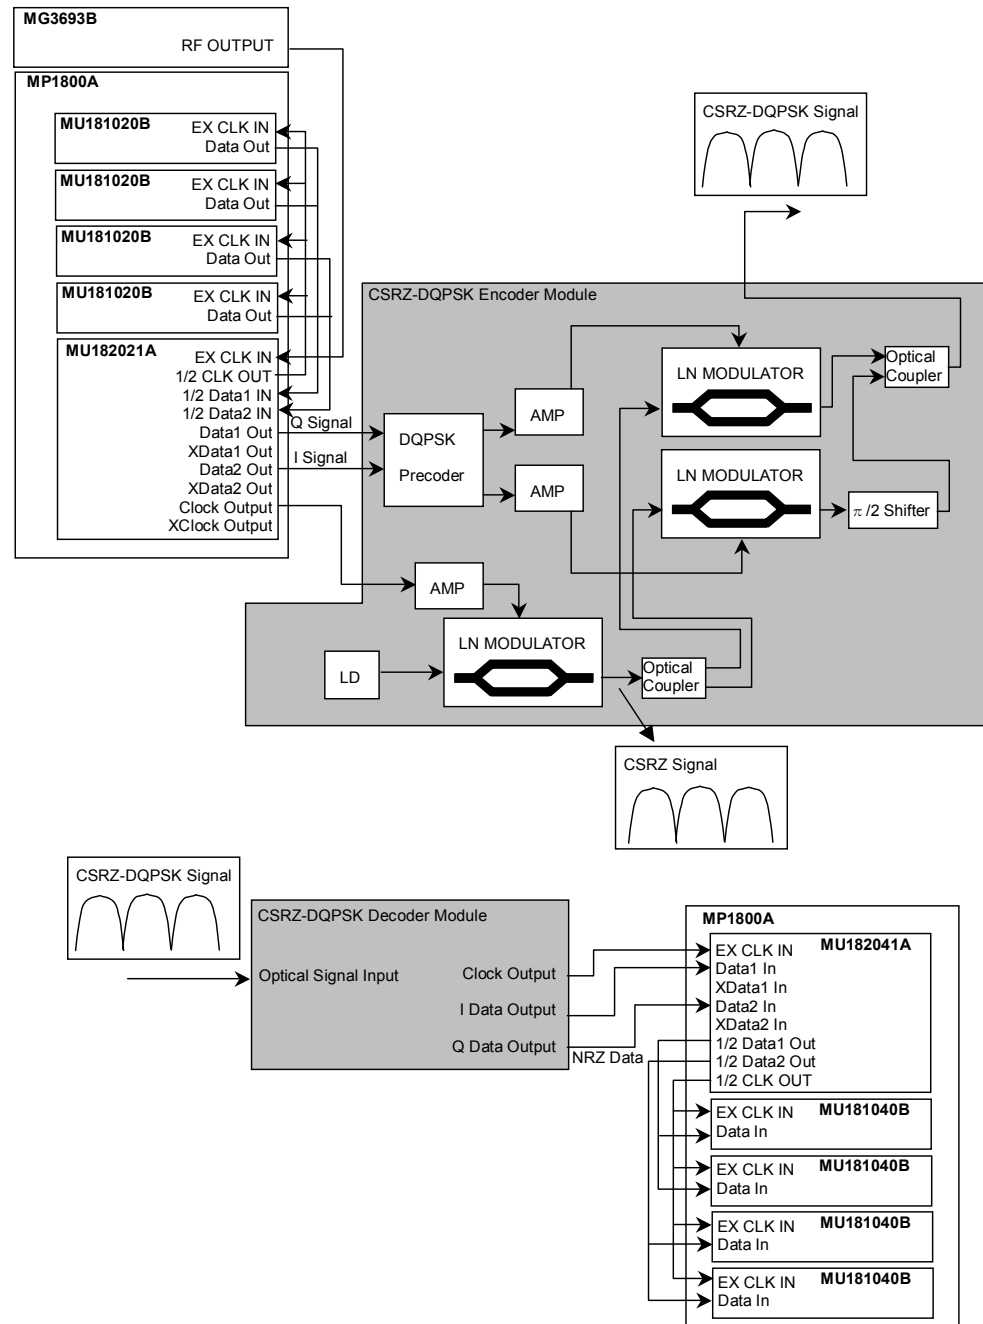

Fig 5.2-1 Connection diagram for DQPSK module evaluation
- 1) Connect the MP1800A, MU181020A/B, MU182021A, MU181040A/B, MU182041A, and MG3693B as shown in Figure 5.2-1.
See Fig. 5.2-1 for connection of the instruments.